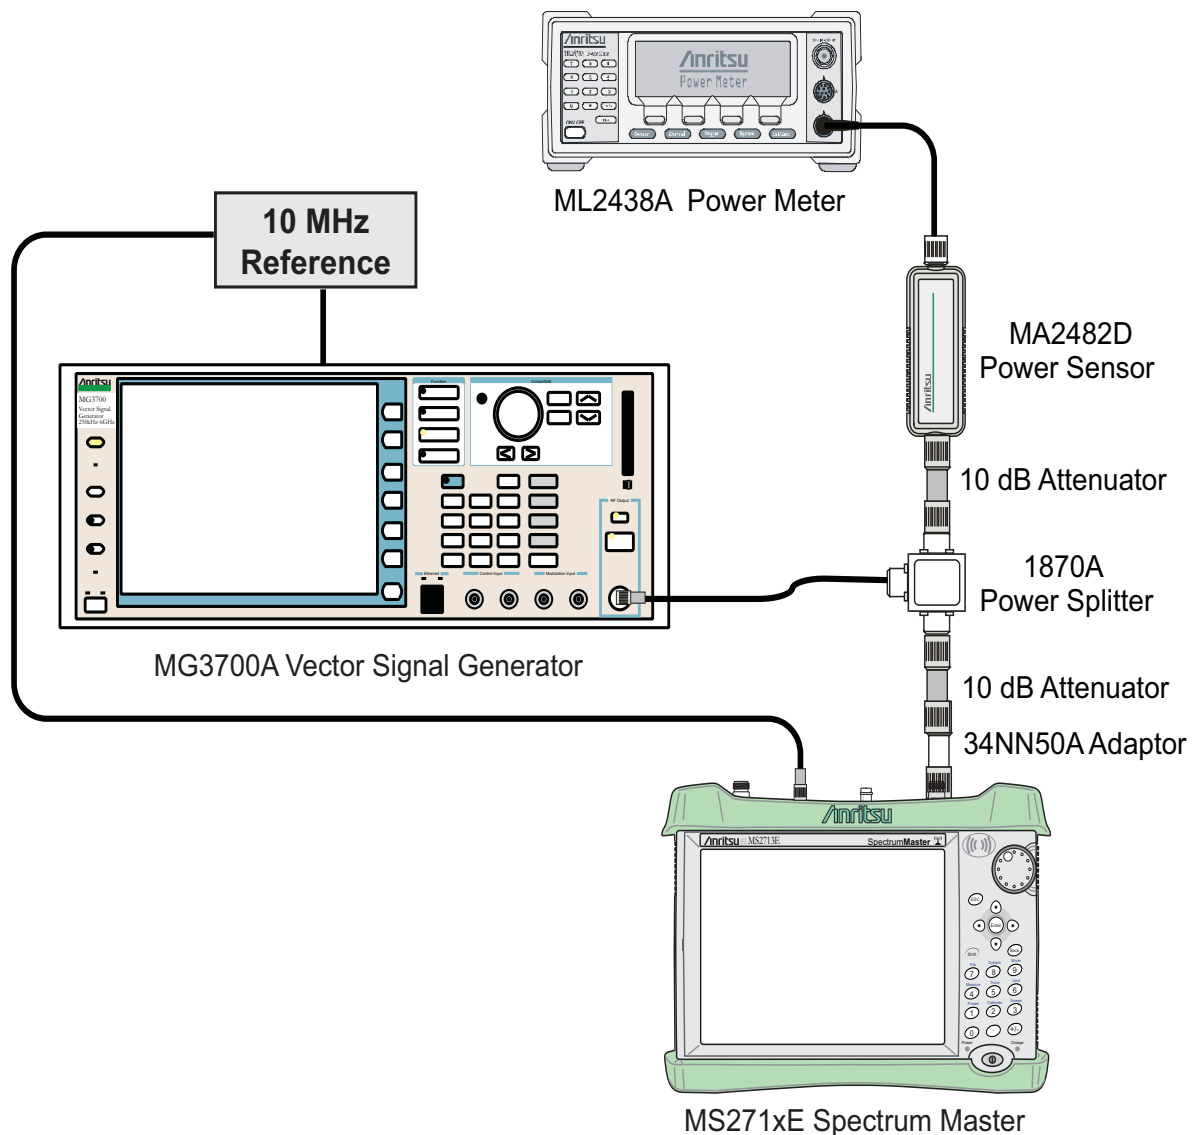

Figure 4-18. Mobile WiMAX Signal Analyzer Option Verification
4. Connect the equipment as shown in Figure 4-18.